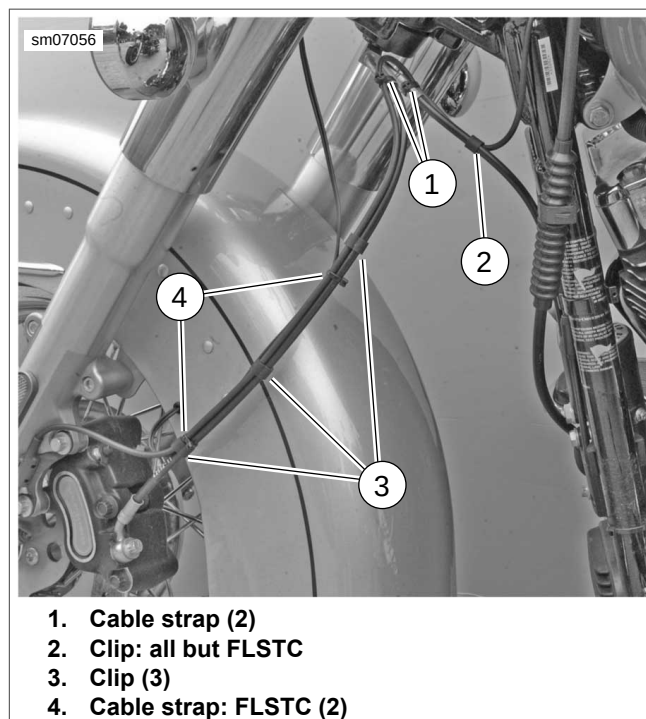
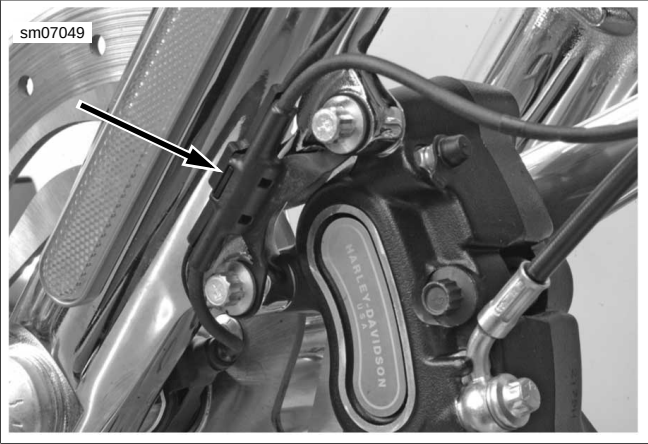

Figure C-9. WSS Cable Rounting
Figure C-10. Front Wheel Speed Sensor Cable Clip
3. See Figure C-9. Cut cable straps (1) and remove clips (3) to release front wheel speed sensor cable from brake hose.
4. **All but FLSTC:** Remove clip (2).
5. **FLSTC:** Cut cable straps (4).
6. See Figure C-10. Remove front wheel speed sensor clip.
4. See Figure C-9. Install **new** cable straps (1) to crimped ends of fitting and install clips (3) to secure front wheel speed sensor cable to brake hose.
5. **All but FLSTC:** Install clip (2).
6. **FLSTC:** Install **new** cable straps (4).
7. See Figure C-10. Install front wheel speed sensor clip.